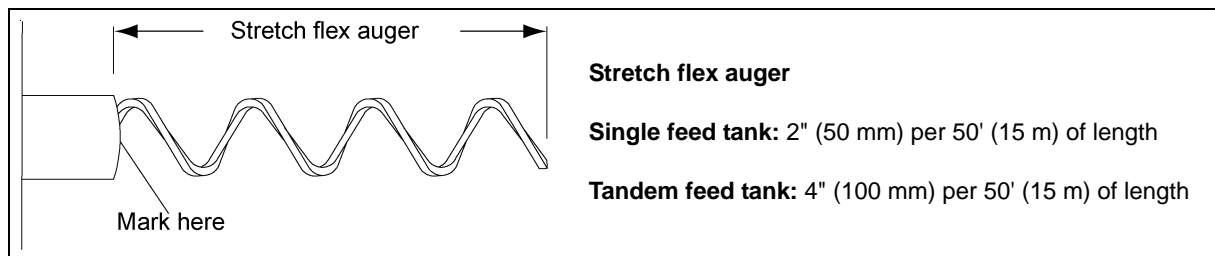

Figure 5V *Stretching the Auger*
7. Draw the auger out of the tubing as far as required. Measure the length between the mark and the unloader inlet. Mark the auger again at the unloader inlet when properly stretched. (See Figure 5V on Page 27.) Stretching the auger too far will cause premature wear at the inside bends of the PVC tubing. Stretching the auger not far enough will cause premature wear at the outside bends of the PVC tubing.